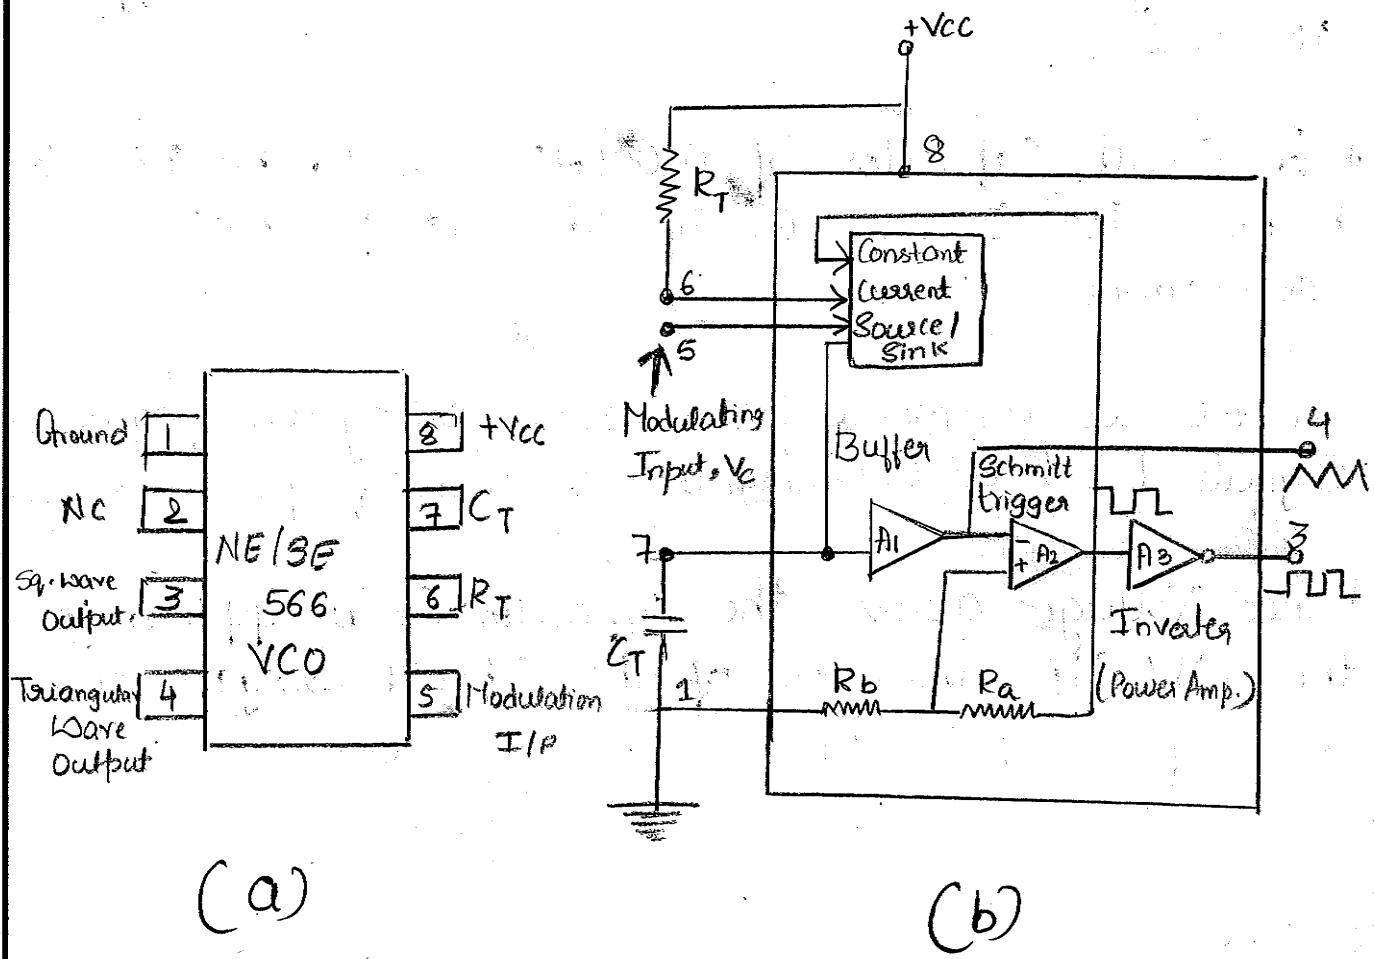

fig 1 : Voltage Controlled Oscillator.
* In fig 1 (b), a timing capacitor C_T is linearly charged (a) discharged by a Constant Current Source/Sink.